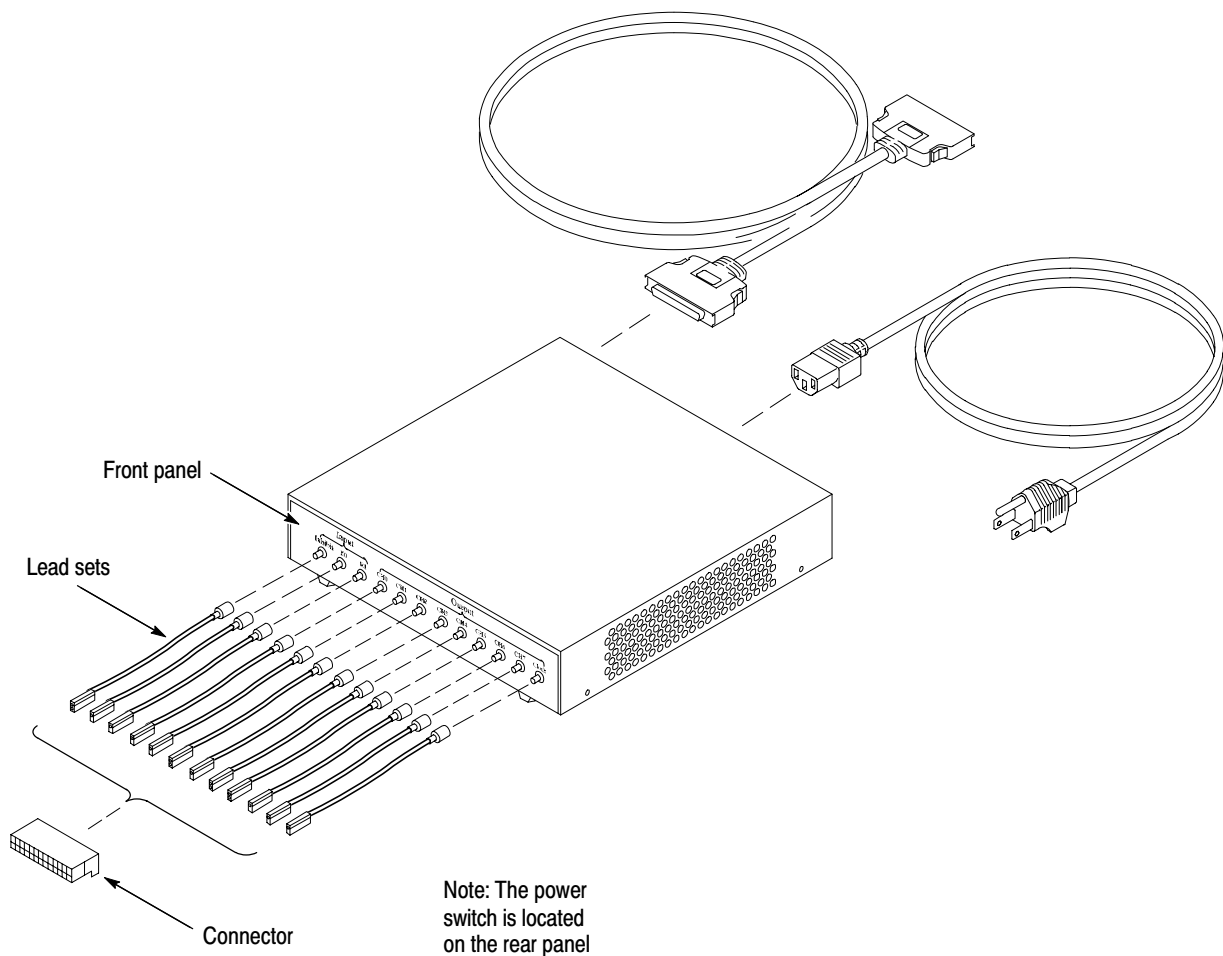

Figure 2: P6475 variable probe, lead sets, power cord, and probe cable
Figure 2 shows the P6475 variable probe, lead sets and probe cable. The probe cable is included with the TLA7PG2 pattern generator module.
3. Connect the P6475 as shown in Figure 2. The probe cable is reversible; either end can be connected to the P6475.